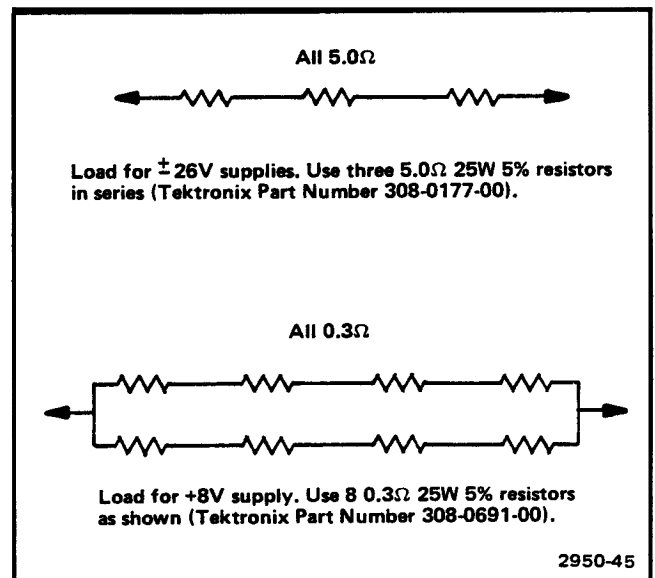

Fig. 4-3. Loads for use in internal adjustment procedure.
- Connect a load as described in Fig. 4-3 from +8V to ground.
- Connect a load as described in Fig. 4-3 from +26V to ground.
- Connect a load as described in Fig. 4-3 from -26V to ground.